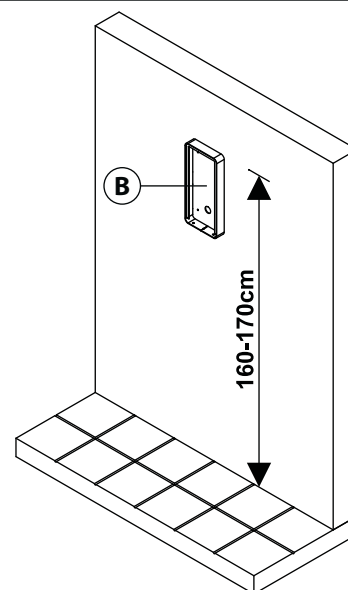

Fig. 2
2. Place the surface box (B) against the wall (165-170cm between the top of the box and the floor lever) and mark the 4 fixing holes for the wall plugs and the hole for the cables (Fig. 2);